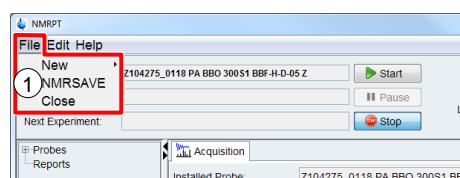

Figure 5-8: NMRSAVE
On the **File** menu shown in Figure 5-8, point to **New**, and then click **NMRSAVE** (1). The resulting file is located in `<tshome>/nmr_backup` folder.